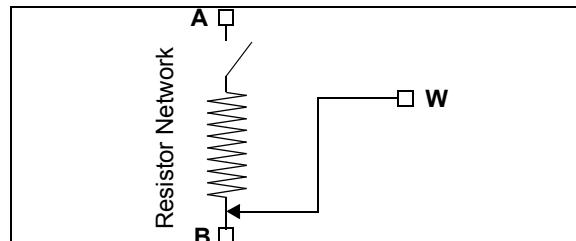

FIGURE 5-2: Resistor Network Shutdown State ($\text{RxHW} = '0'$).
- The P0W, P1W, P2W, and P3W terminals are simultaneously connect to the P0B, P1B, P2B, and P3B terminals, respectively (see Figure 5-2)